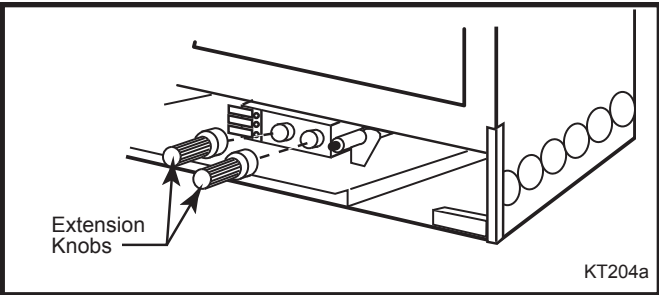

Fig. 33 Install the knob extensions. (RN/RP models Only)
- c. Install the Control Knob Extensions onto the appropriate Control Valve Knobs. (Fig. 33)
On units fitted with a Honeywell brand control valve the location of the control knobs and the ignitor button may vary slightly from those shown in Figure 33. The Honeywell extension pieces are visually different in design and are not interchangeable with the RN/RP knobs shown in Figure 33.